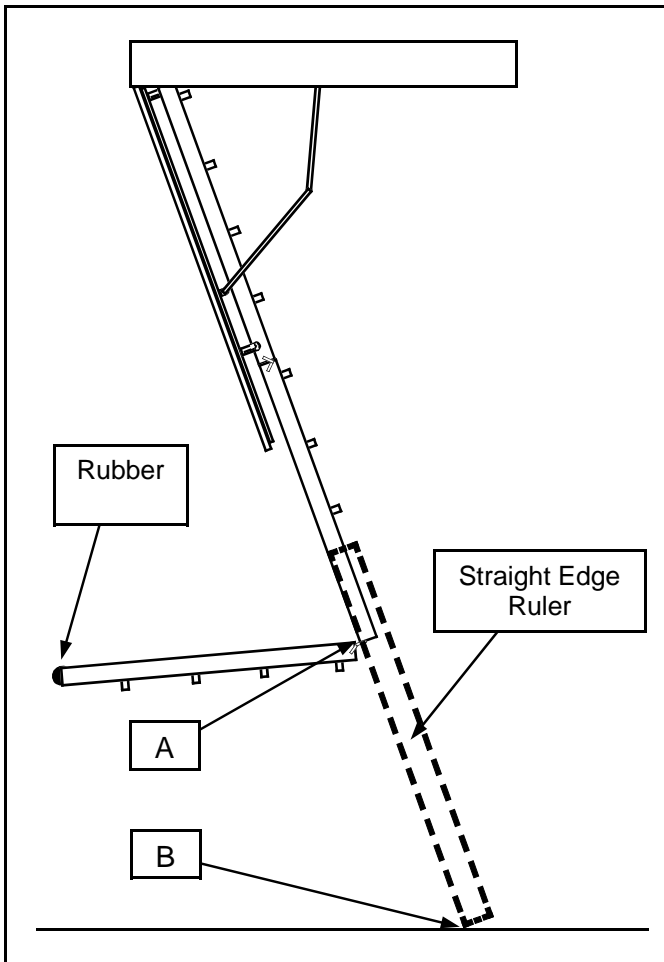

Figure 9
1. Unfold all sections as shown in Figure 9.